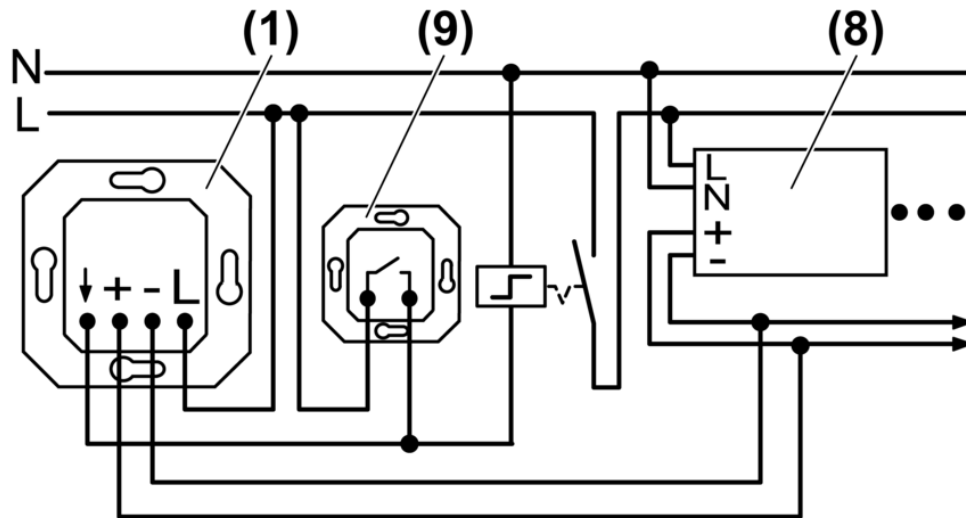

Figure 5: Connection diagram for potentiometer with push-button function and extension
- Adjusting basic brightness (Figure 5).